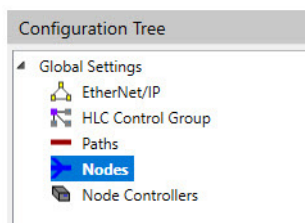

Figure 4-50: Configuration Tree with Nodes Selected
1. In the Configuration Tree, select **Nodes**, see Figure 4-50.